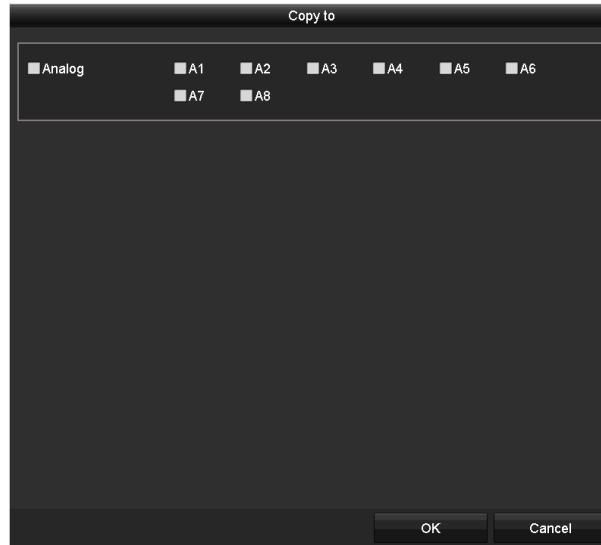

Figure 11-2 Copy Settings to Other Cameras
- 1) If you want to copy the OSD settings of the current camera to other cameras, click the **Copy** button to enter the **Copy Camera** interface, as shown in Figure 11-2.